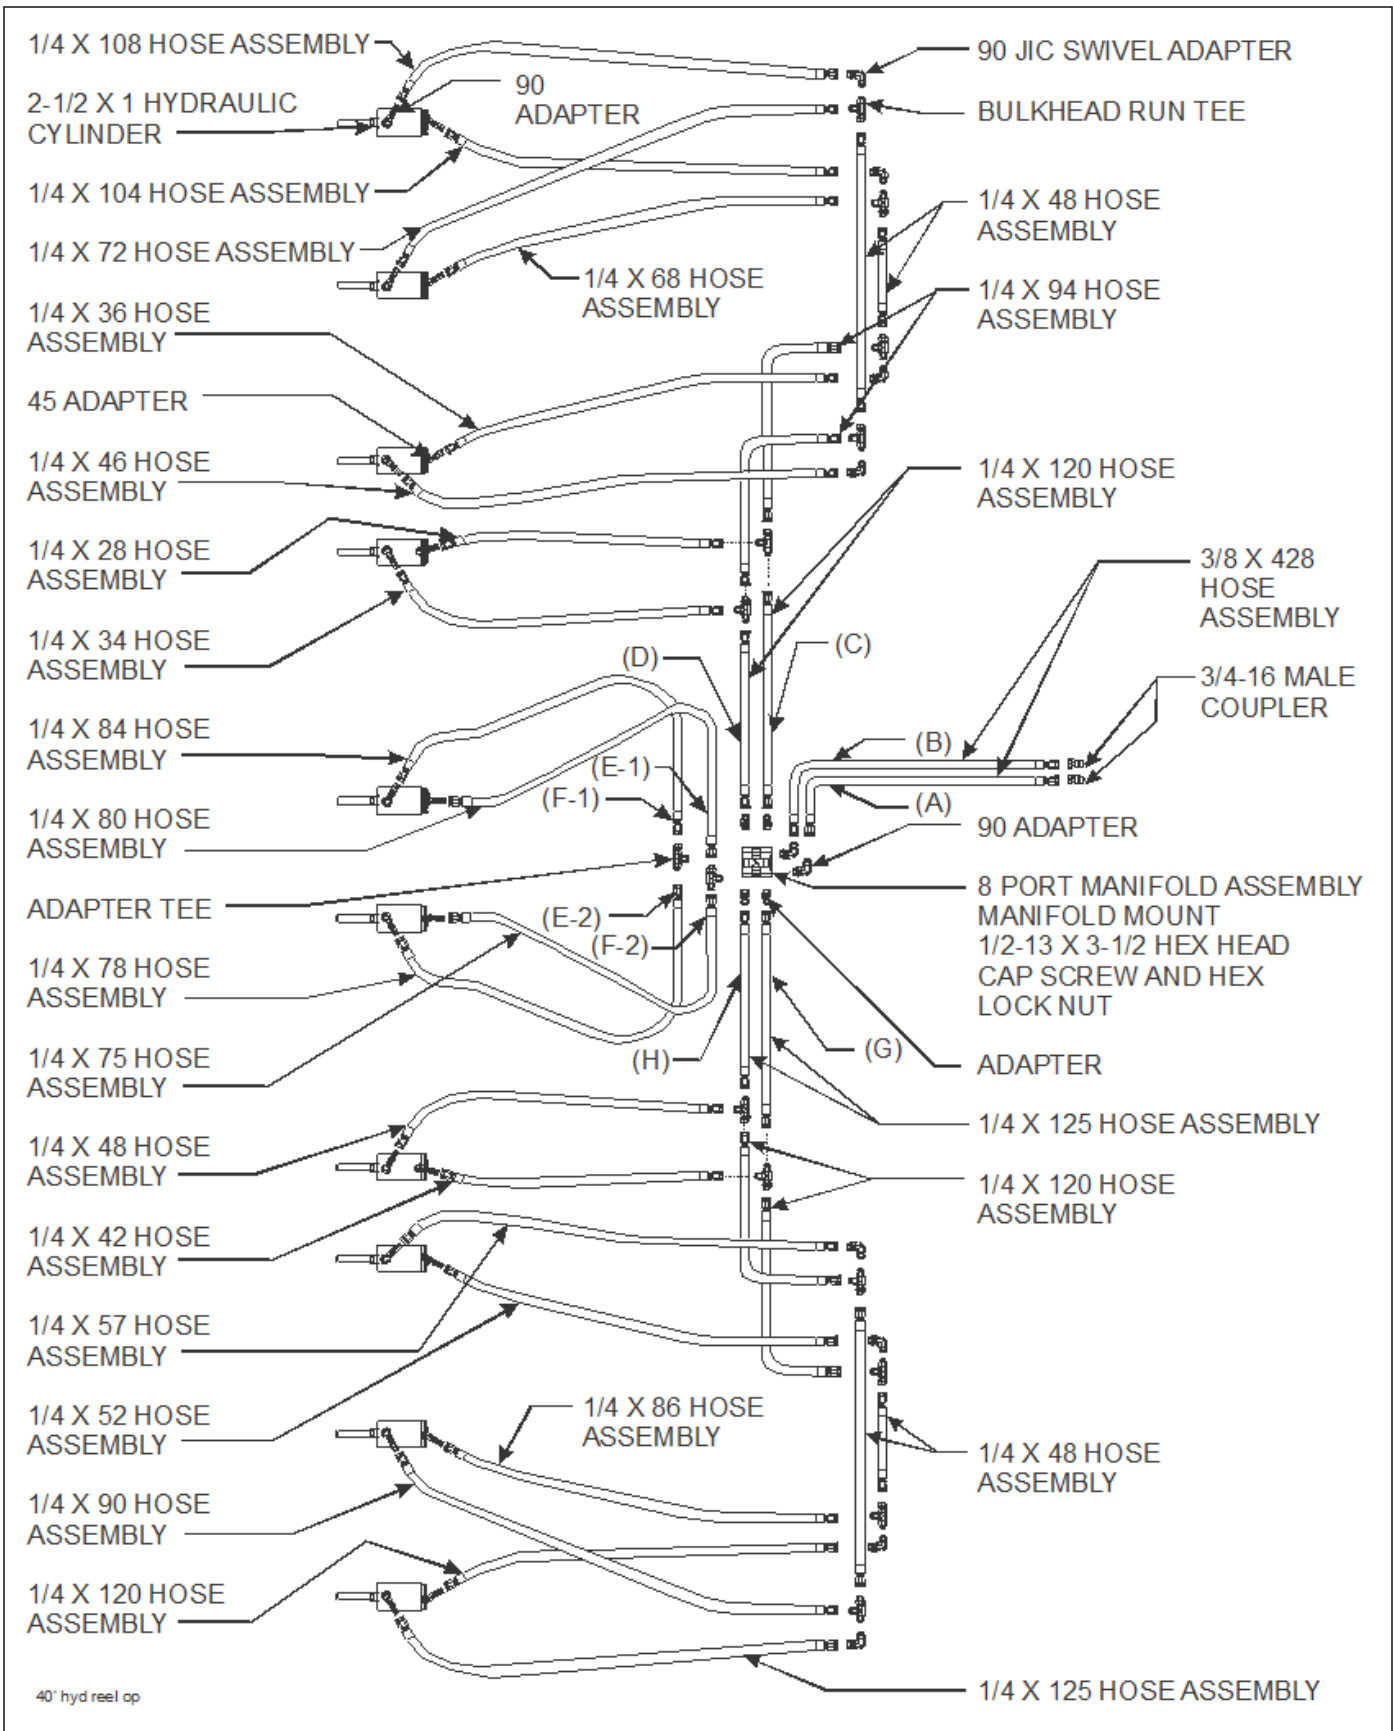

Figure 3-24: Finishing Reel Hydraulic Installation (40' Model)
Refer to **Figure 3-24** for 6250-40' condition reel hydraulic diagram.
8. Install fittings into manifold according to **Figures 3-24 through 3-26**.
11. Install hoses per **Figures 3-24 through 3-26**. Hose routing to follow **Figures 3-31 and 3-32**.